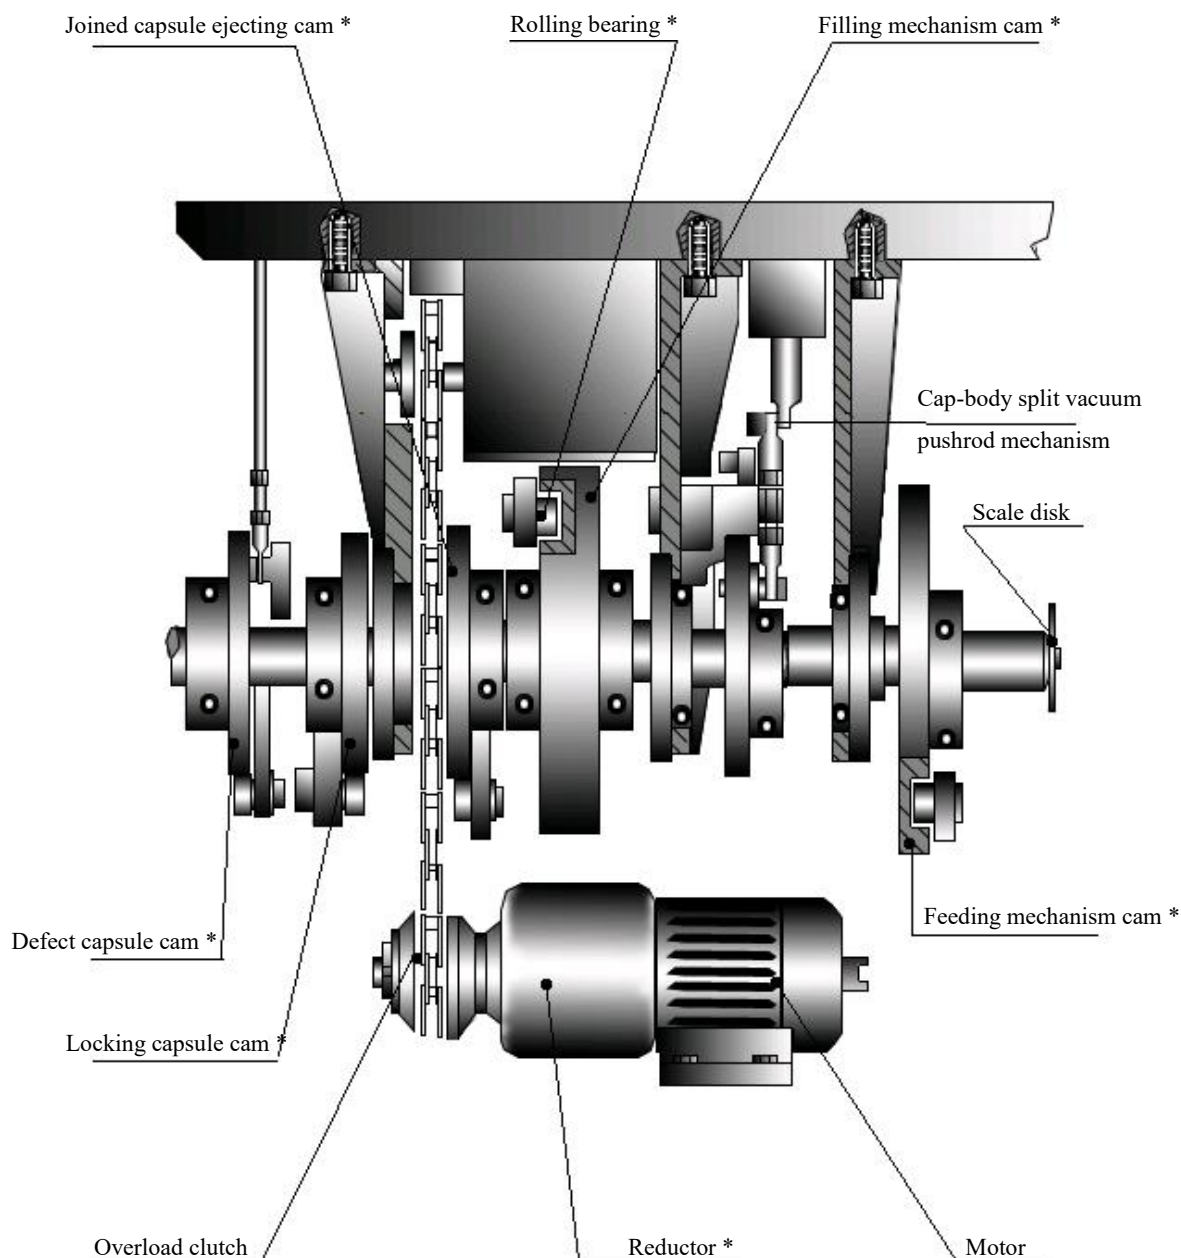

Fig. 30 Transmission Gear
5.2.12 Adjustment of Overload Clutch (refer to Fig. 30)